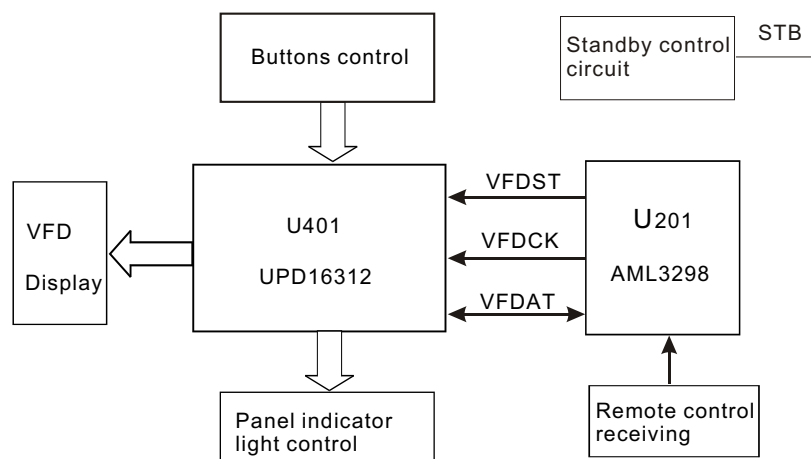

Figure 3.2.12.1 Panel control circuit block diagram
1. Panel control circuit block diagram is shown as the following figure 3.2.12.1: